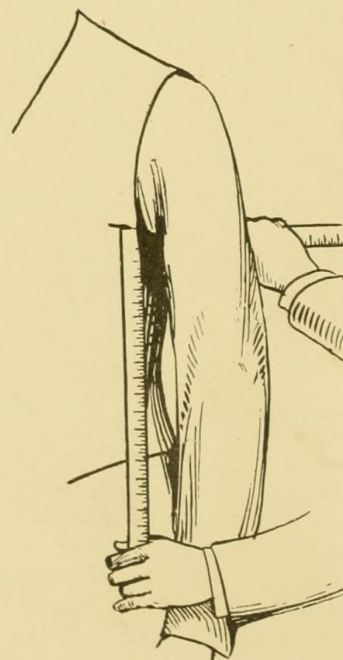

FIG. 2
5. **Tip** the square outward and down, keeping the long arm in the same position (horizontal); then mark on top or upper side of the square in front, crossing the first chalk line; also make a mark back of the arm above the square. (See Figs. 2 and 3.)